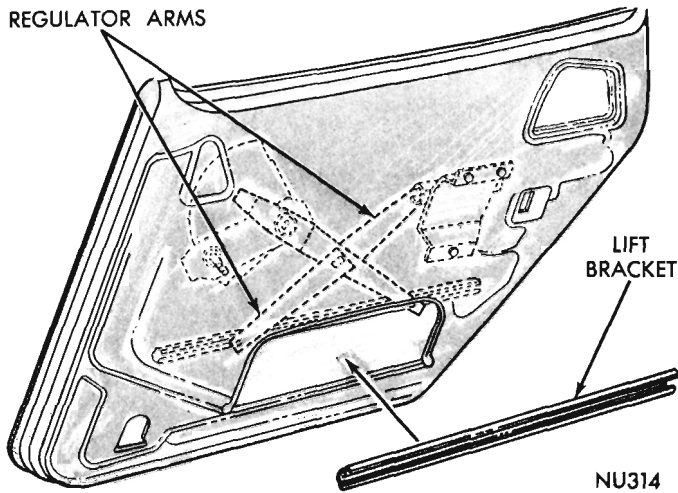

Fig. 23 - Lift Bracket
- (1) Apply lubricant to sliding contact surfaces of pivot channel.
- (2) Through large access hole, position pivot channel over slide on regulator idler arm.
- (3) Align pivot bracket mounting holes with holes in door inner panel and secure with screws.
- (4) Install rear door glass.
**GLASS LIFT BRACKET (FIG. 23)**
- (1) Remove rear door glass to lift bracket screws.
- (2) Move lift bracket forward on front slide to disengage bracket from rear slide.
- (3) Move bracket rearward to remove from front slide.